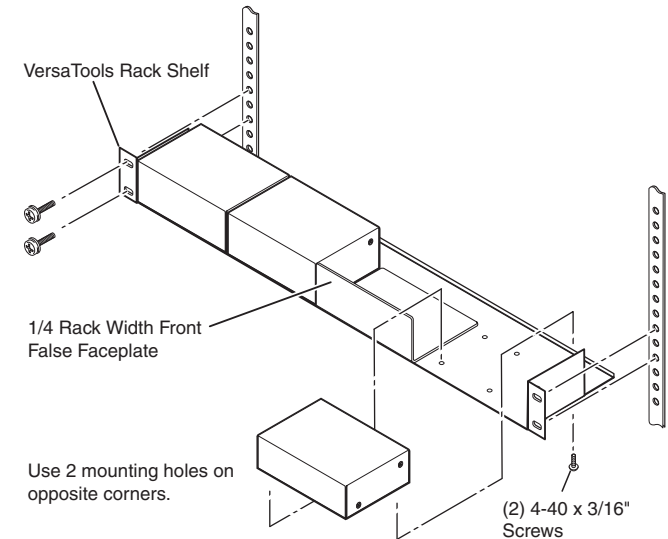

Figure 2-1 — Mounting a YCS SW2 (with other units) on a VersaTools rack shelf
2. Mount the YCS SW2 on the rack shelf, using two 4-40 x 3/16" screws in opposite (diagonal) corners to secure the unit to the shelf (see figure 2-1, below).